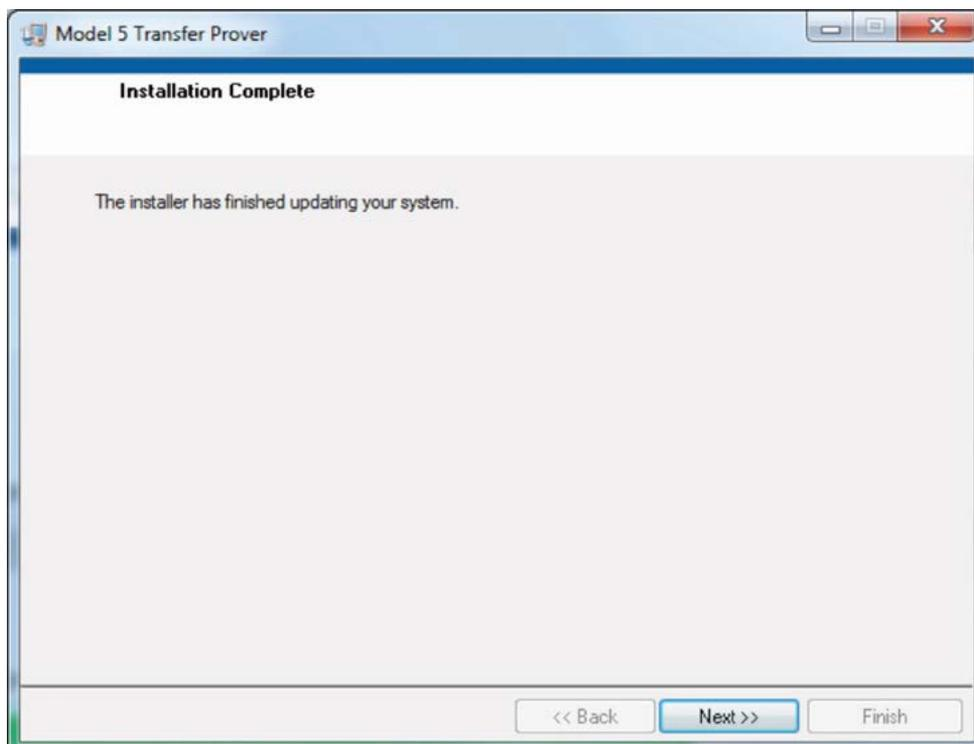

Figure 38: Prover Installation Complete Screen
7. Upon completion of the software installation a notification will appear as shown in **Figure 38**. Select “Next” to begin the installation of USB to Serial drivers.